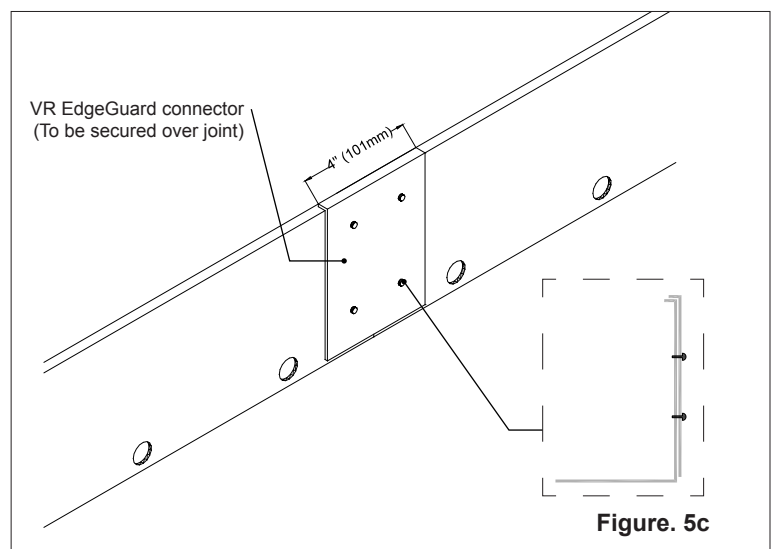

Figure 5c
- c. When joining two sections together, ensure a tight fit at all joints. Place edge connector piece on vegetation-free side of edging restraint, making sure to overlap evenly with both ends of joints. Secure with self-tapping screws as per diagram. See Figure 5c.